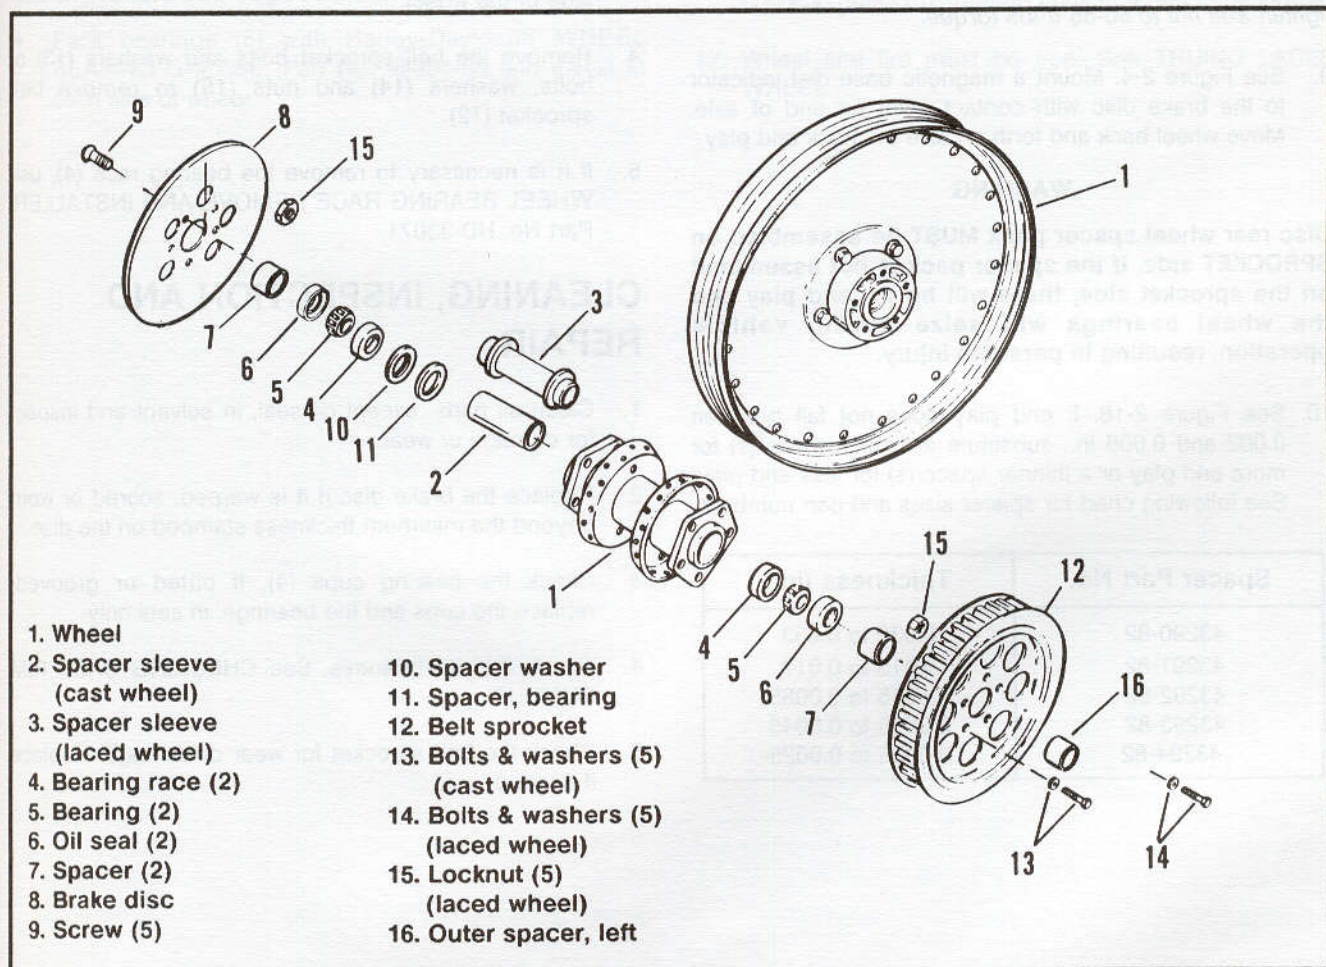

Figure 2-16. Rear Wheel/Hub - 1992
3. See Figure 2-16. Remove cotter pin, axle nut, and washer (spacer) from left side of axle. Tap axle towards right side and remove.
10. See Figure 2-16. If end play does not fall between 0.002 and 0.006 in., substitute a thicker spacer(s) for more end play or a thinner spacer(s) for less end play. See following chart for spacer sizes and part numbers.